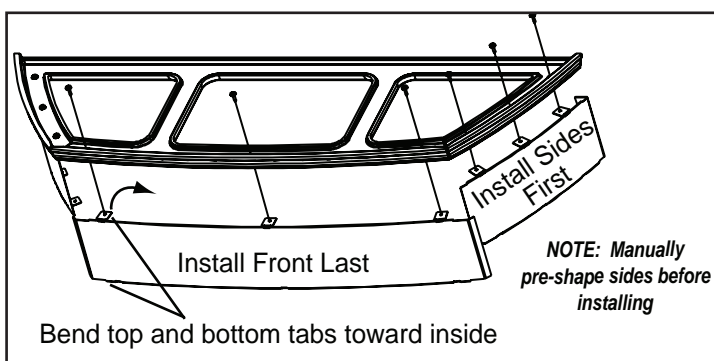

Figure 20.1
4. Lay 1 cast ring face up, which will become the bottom ring when installed. Attach the 2 sides FIRST and then the front piece. **Figure 20.1.**